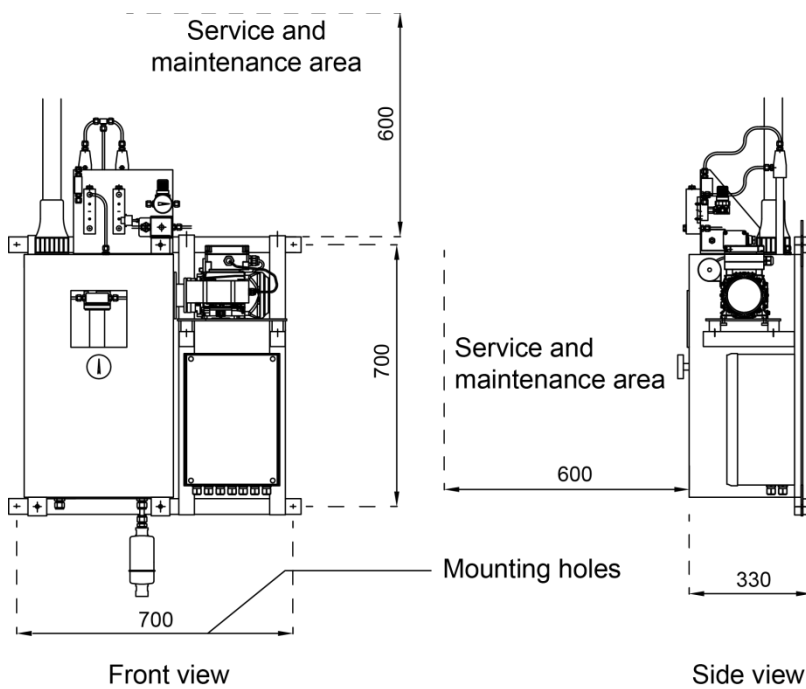

Figure 17 Sample Conditioning System, outline dimensions
- 6 mm nut set (3 pcs) for sample in , sample out and air. Refer to N1, N2 and N3 in Figure 17.